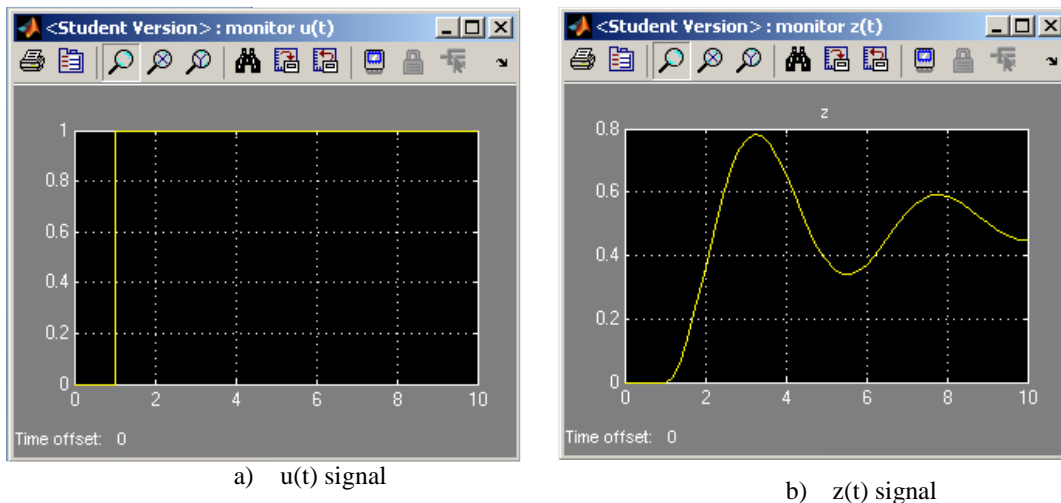

Figure 10: Output from scope outputs
15. We would like to look at the response of the system using the scope. Double click on the scope block to open it up. Autoscale the plot so that you can see the response (the autoscale button looks like a pair of binoculars). You should see something similar to Figure 10.